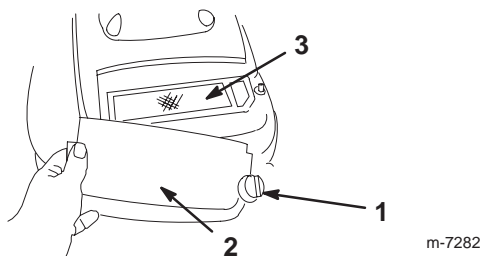

Figure 21
3. Remove the screw that secures the air cleaner cover (Fig. 21).
4. Remove the cover and clean it thoroughly (Fig. 21).
6. Remove the foam pre-cleaner and wash it with a mild detergent and water, then blot it dry (Fig. 21).